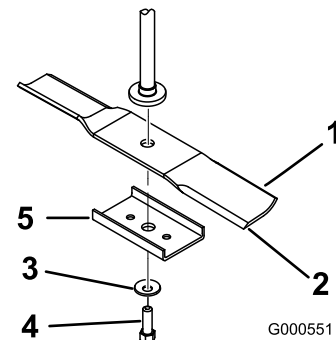

Figure 1
Note: If your blades have a blade stiffener as shown in Figure 1, **do not** use the blade stiffener when installing the new blades.
3. Hold the blade end using a rag or thickly-padded glove. Remove the blade bolt, curved washer, blade stiffener (certain models only), and blade from the spindle shaft (Figure 1).
Note: Do not install a blade stiffener. These blades do not require the blade stiffener bracket (Figure 1).